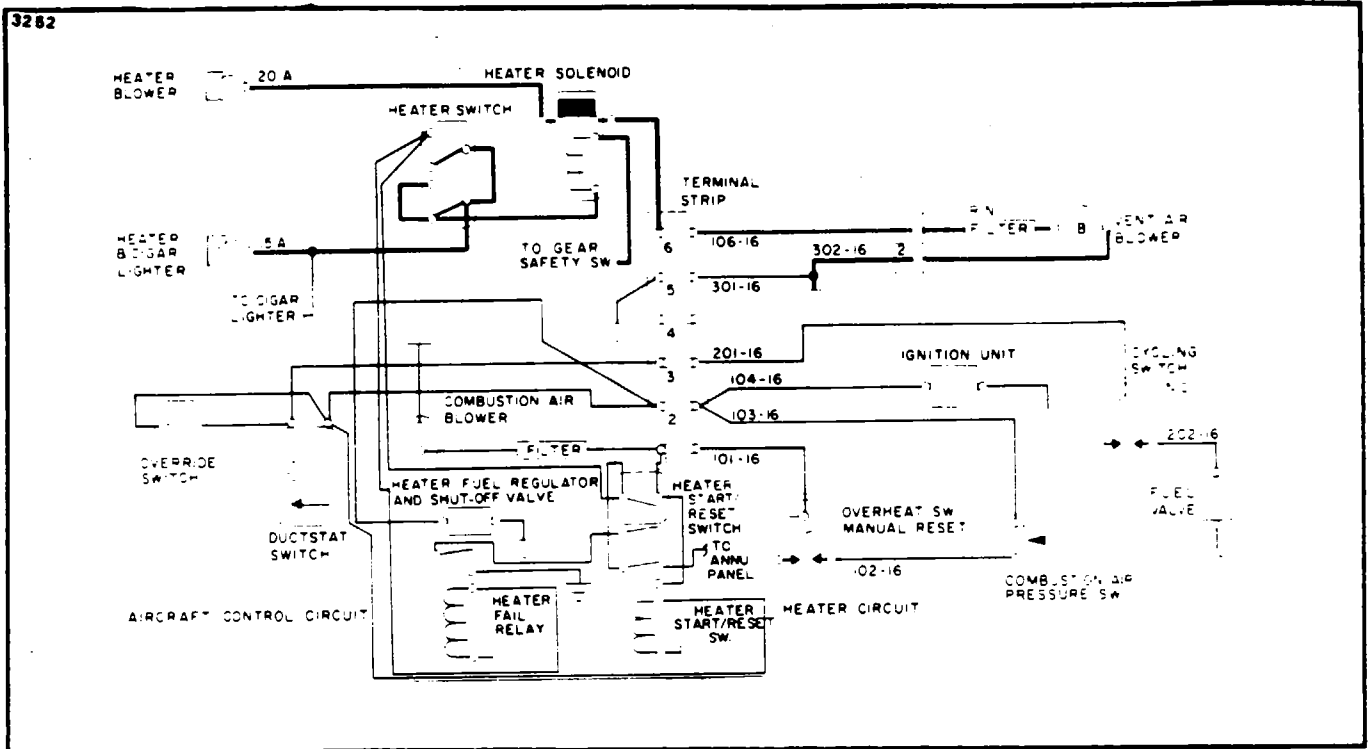

Figure 13-7. Vent Blower Power Circuit
a. With the HEATER SWITCH in the FAN position, electrical continuity (28 volts nominal) should be present at the following locations. (Refer to Figure 13-7.)